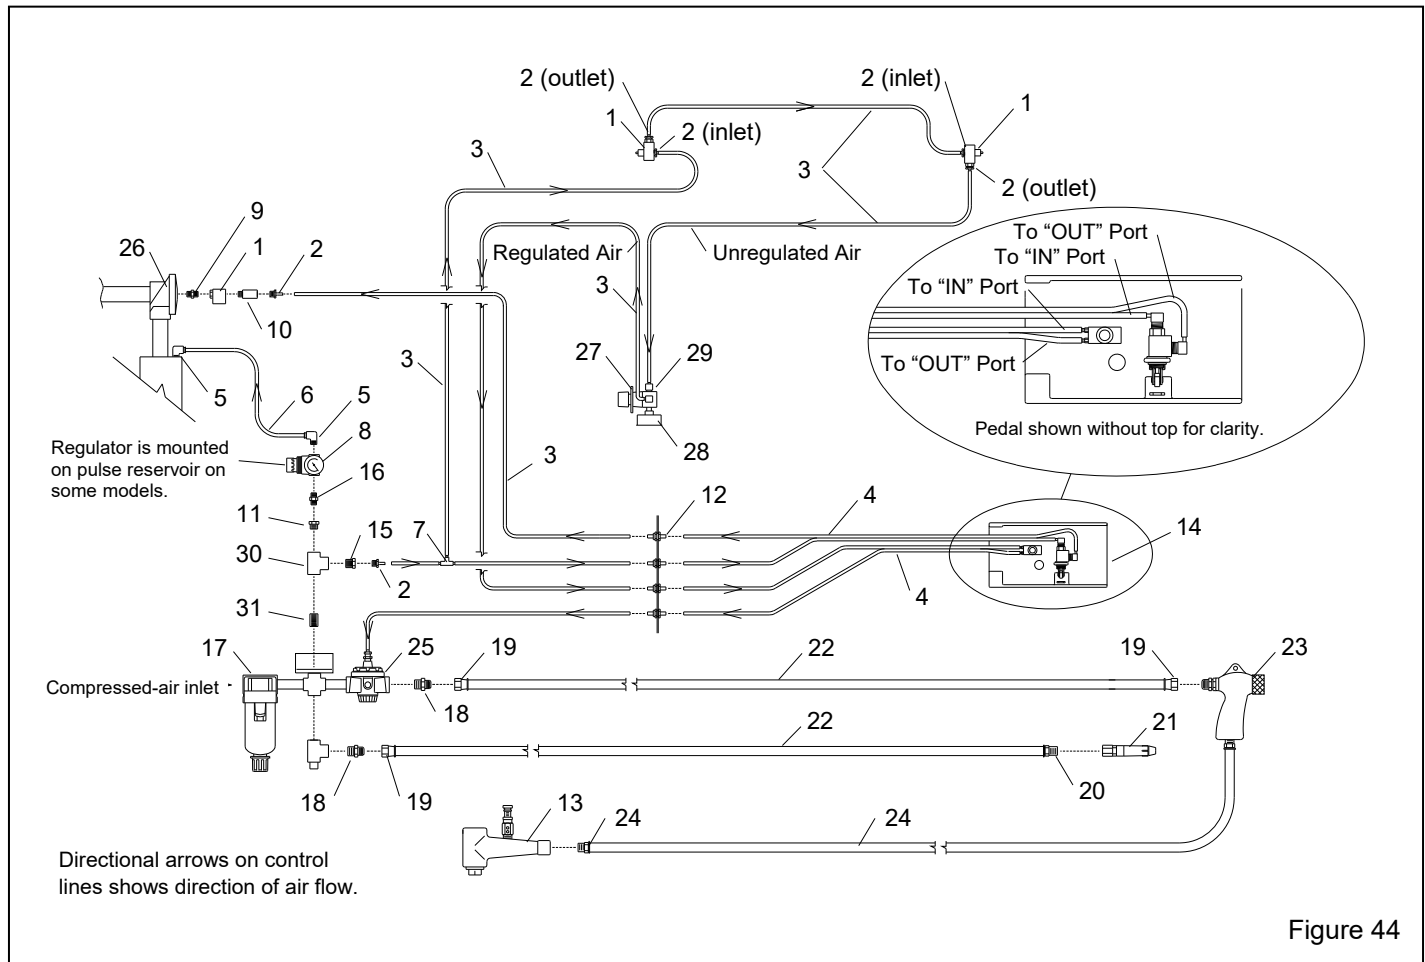

Figure 44
9.4 Cabinet Controls and Plumbing – Figure 44